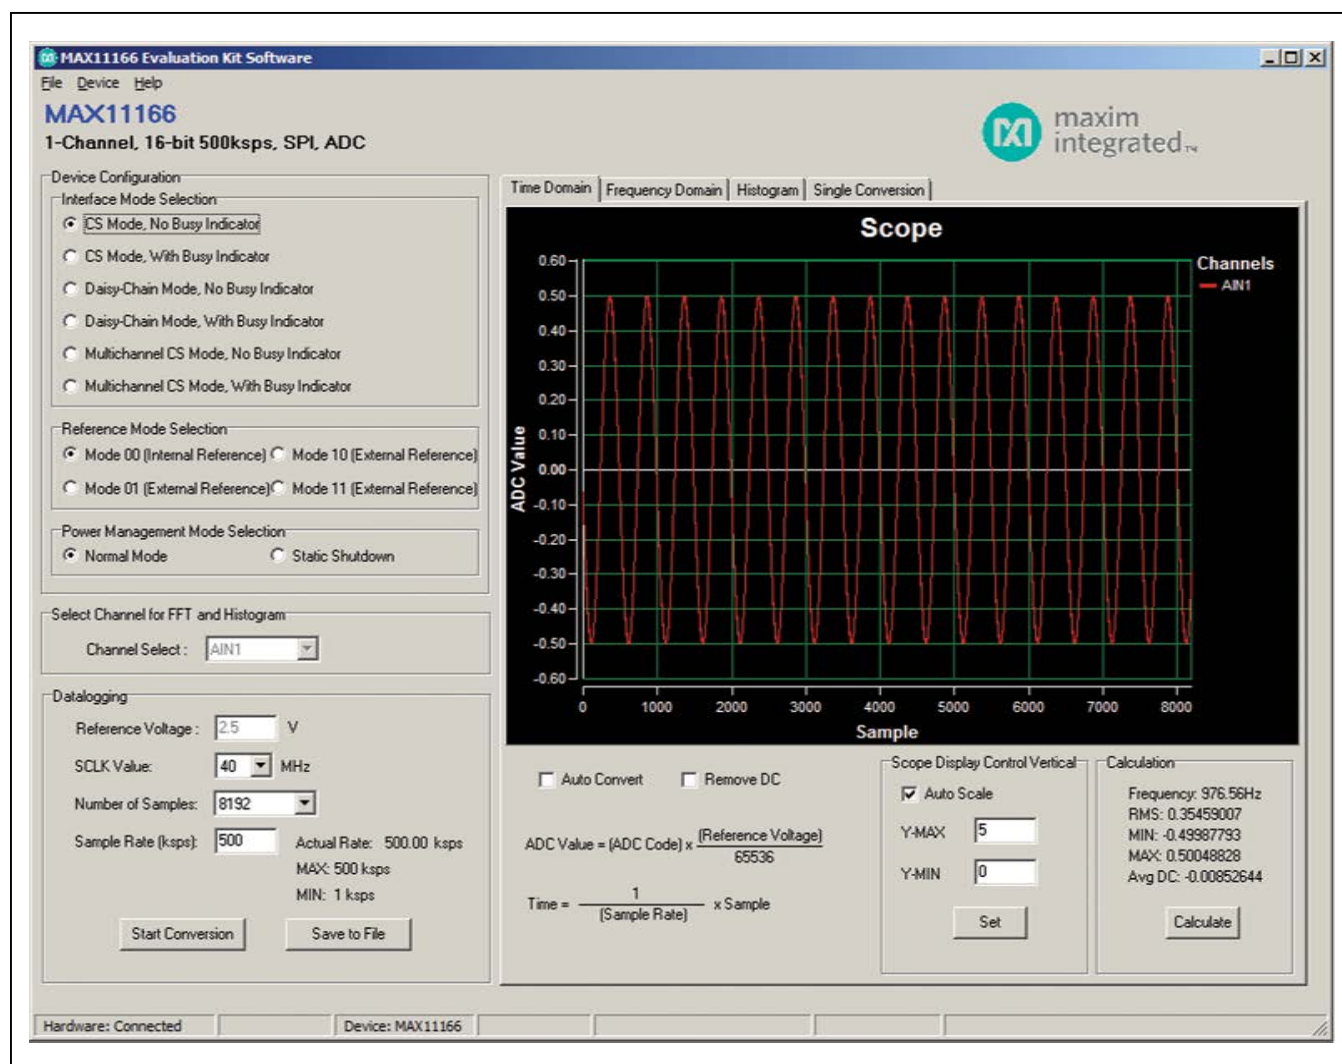

Figure 1. MAX11166 Evaluation System Software Main Window
- 13) Start the EV system software by opening its icon in the **Start | Programs** menu. The EV system software device selection window appears, as shown in Figure 1.
The main window of the evaluation software (shown in Figure 1) configures the ADCs and displays the data using the four tab sheets: **Time Domain**, **Frequency Domain**, **Histogram**, and **Single Conversion**. In addition, the sampled data can be saved to a file.